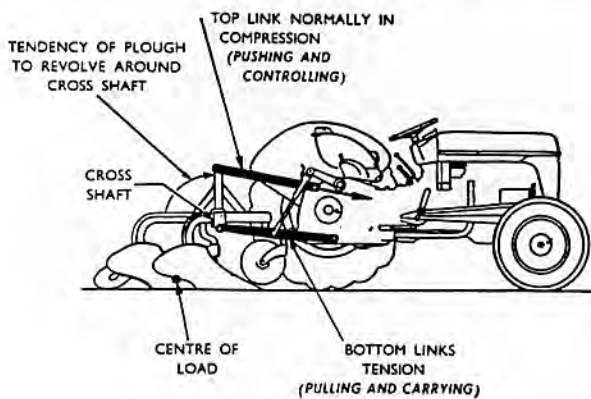

FIG. 14
If the implement strikes a hidden obstruction, an excessive forward thrust occurs against the control spring (see Fig. 14) and the hydraulic system control valve is moved to jettison the oil from the hydraulic lift cylinder. This immediately releases the implement weight from the rear of the tractor. As this
Manual operation is effected by the separate hand levers as explained on page L.1; the **Automatic** source of control is provided for one system by a cam which rotates with the lift shaft as the lower links rise or fall; and for the other system by the draft reaction of the implement through the top link measured by a control spring—refer to Fig. 14.
Implement draft pressure (see Fig. 14) against control spring plunger (Q) moves control rod (O) forward and pivots cam (L) forwards about roller (V) on the draft control lever shaft. This action pivots lever (M) about guide rod (N) and operates valve lever (G) to move the control valve to neutral. Once the valve attains the neutral position further penetration of the implement is prevented—the implement draft balancing the degree of control spring compression necessary to centralise the valve. Should, for instance, surface undulations cause a temporary increase or decrease in working depth and therefore in the compression force against the control spring, the position of cam (L) will alter to move the control valve into intake or discharge to re-establish the original draft setting.